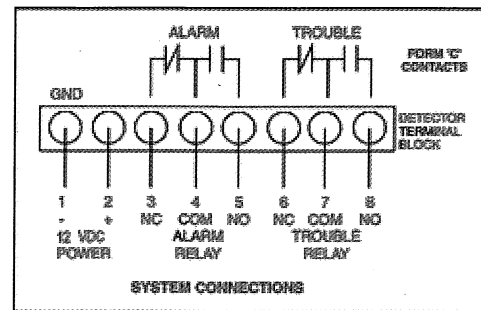

Figure 5
9.5.3 Pull wires through hole at center of alarm base and connect to the internal terminal block as shown on the following wiring diagrams. (see figure 5)